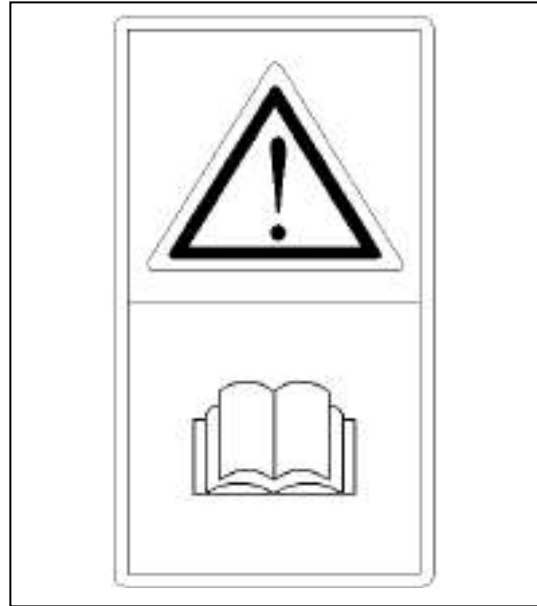

Figure 1-20 Precautions for operation, inspection, transportation and maintenance
(19) Precautions for operation, inspection, transportation and maintenance, as shown in Figure 1-20.